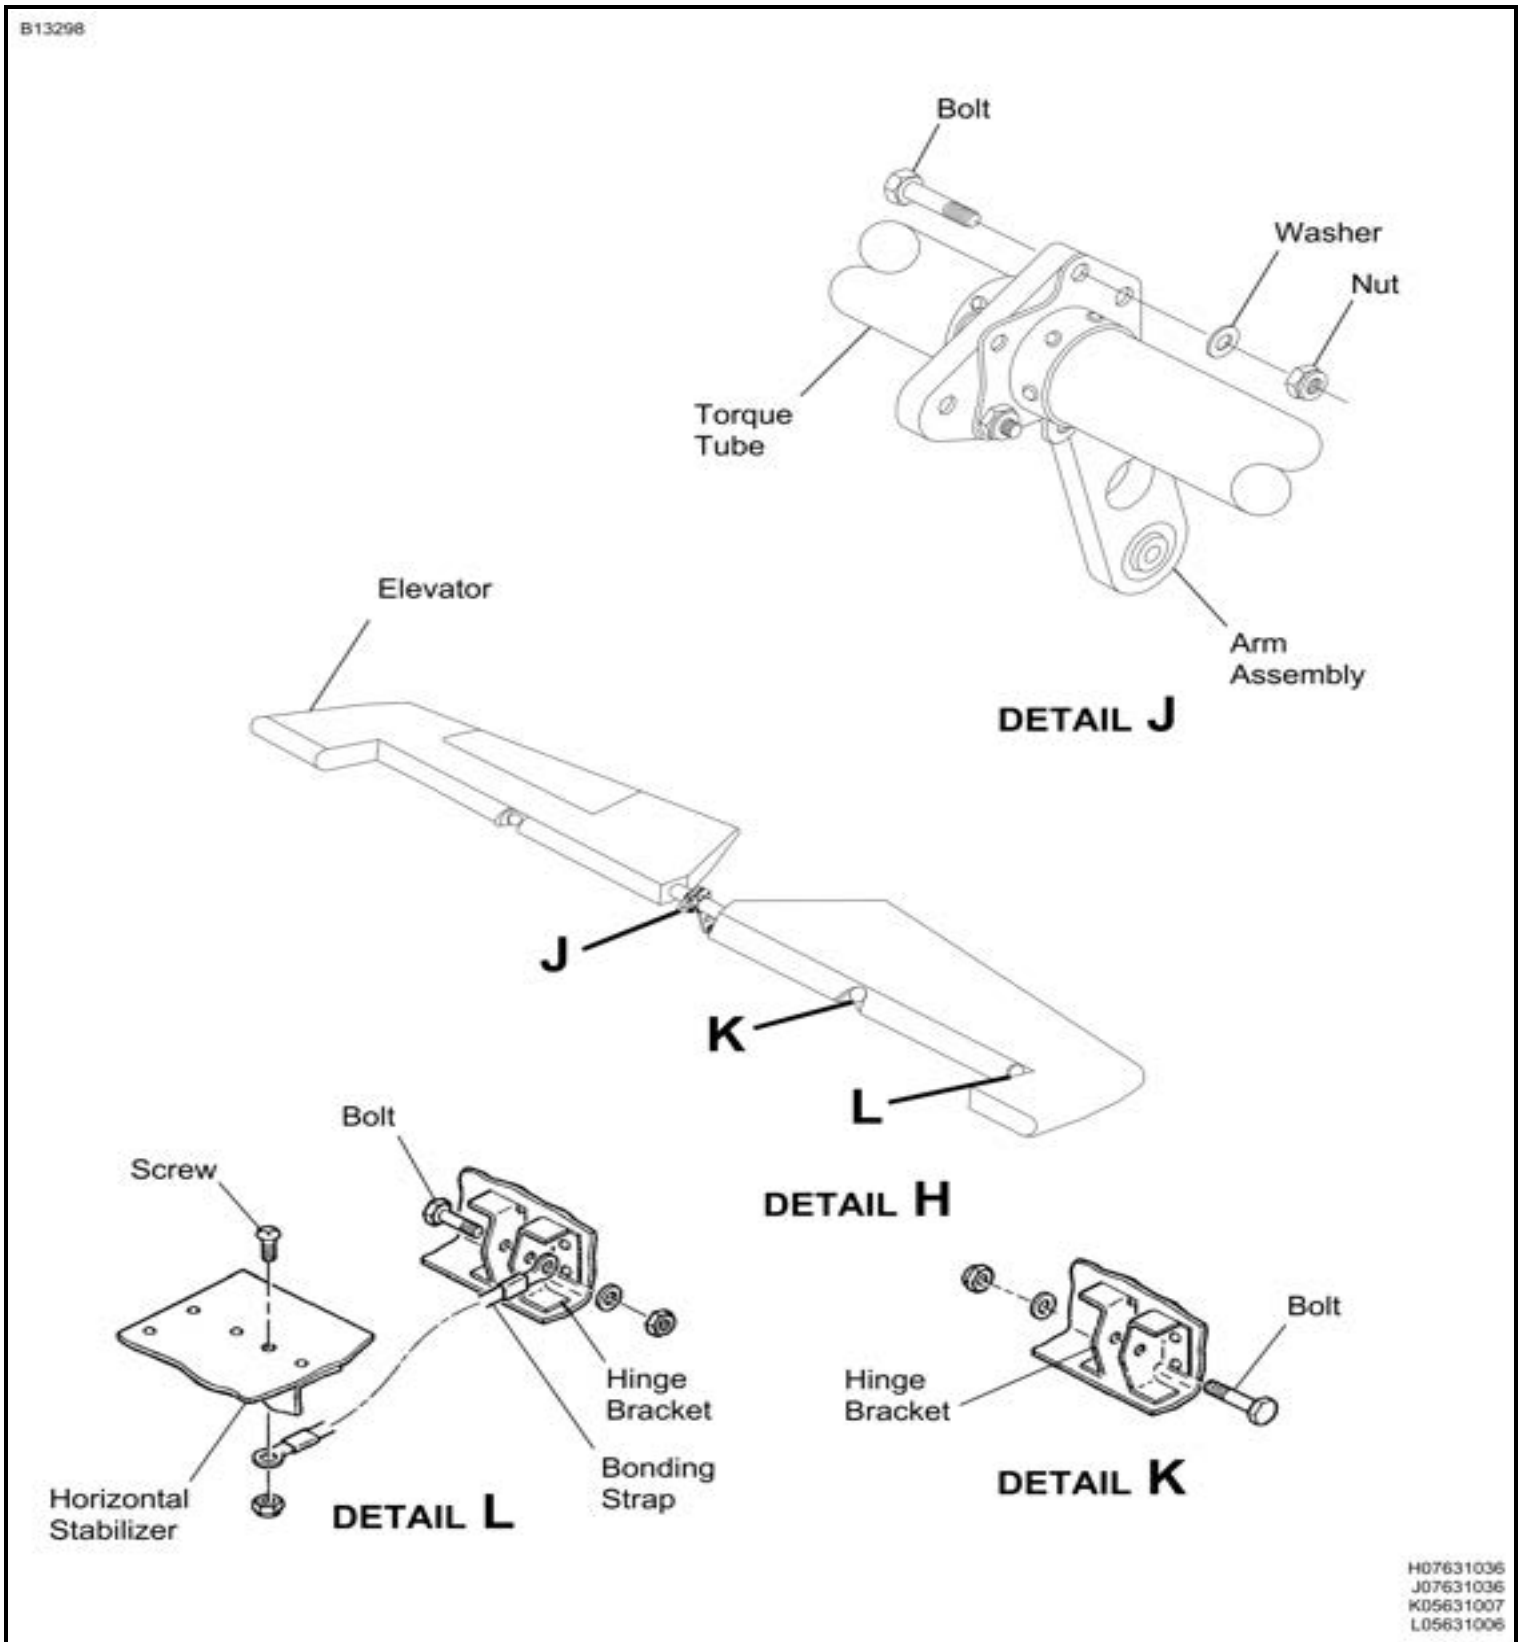
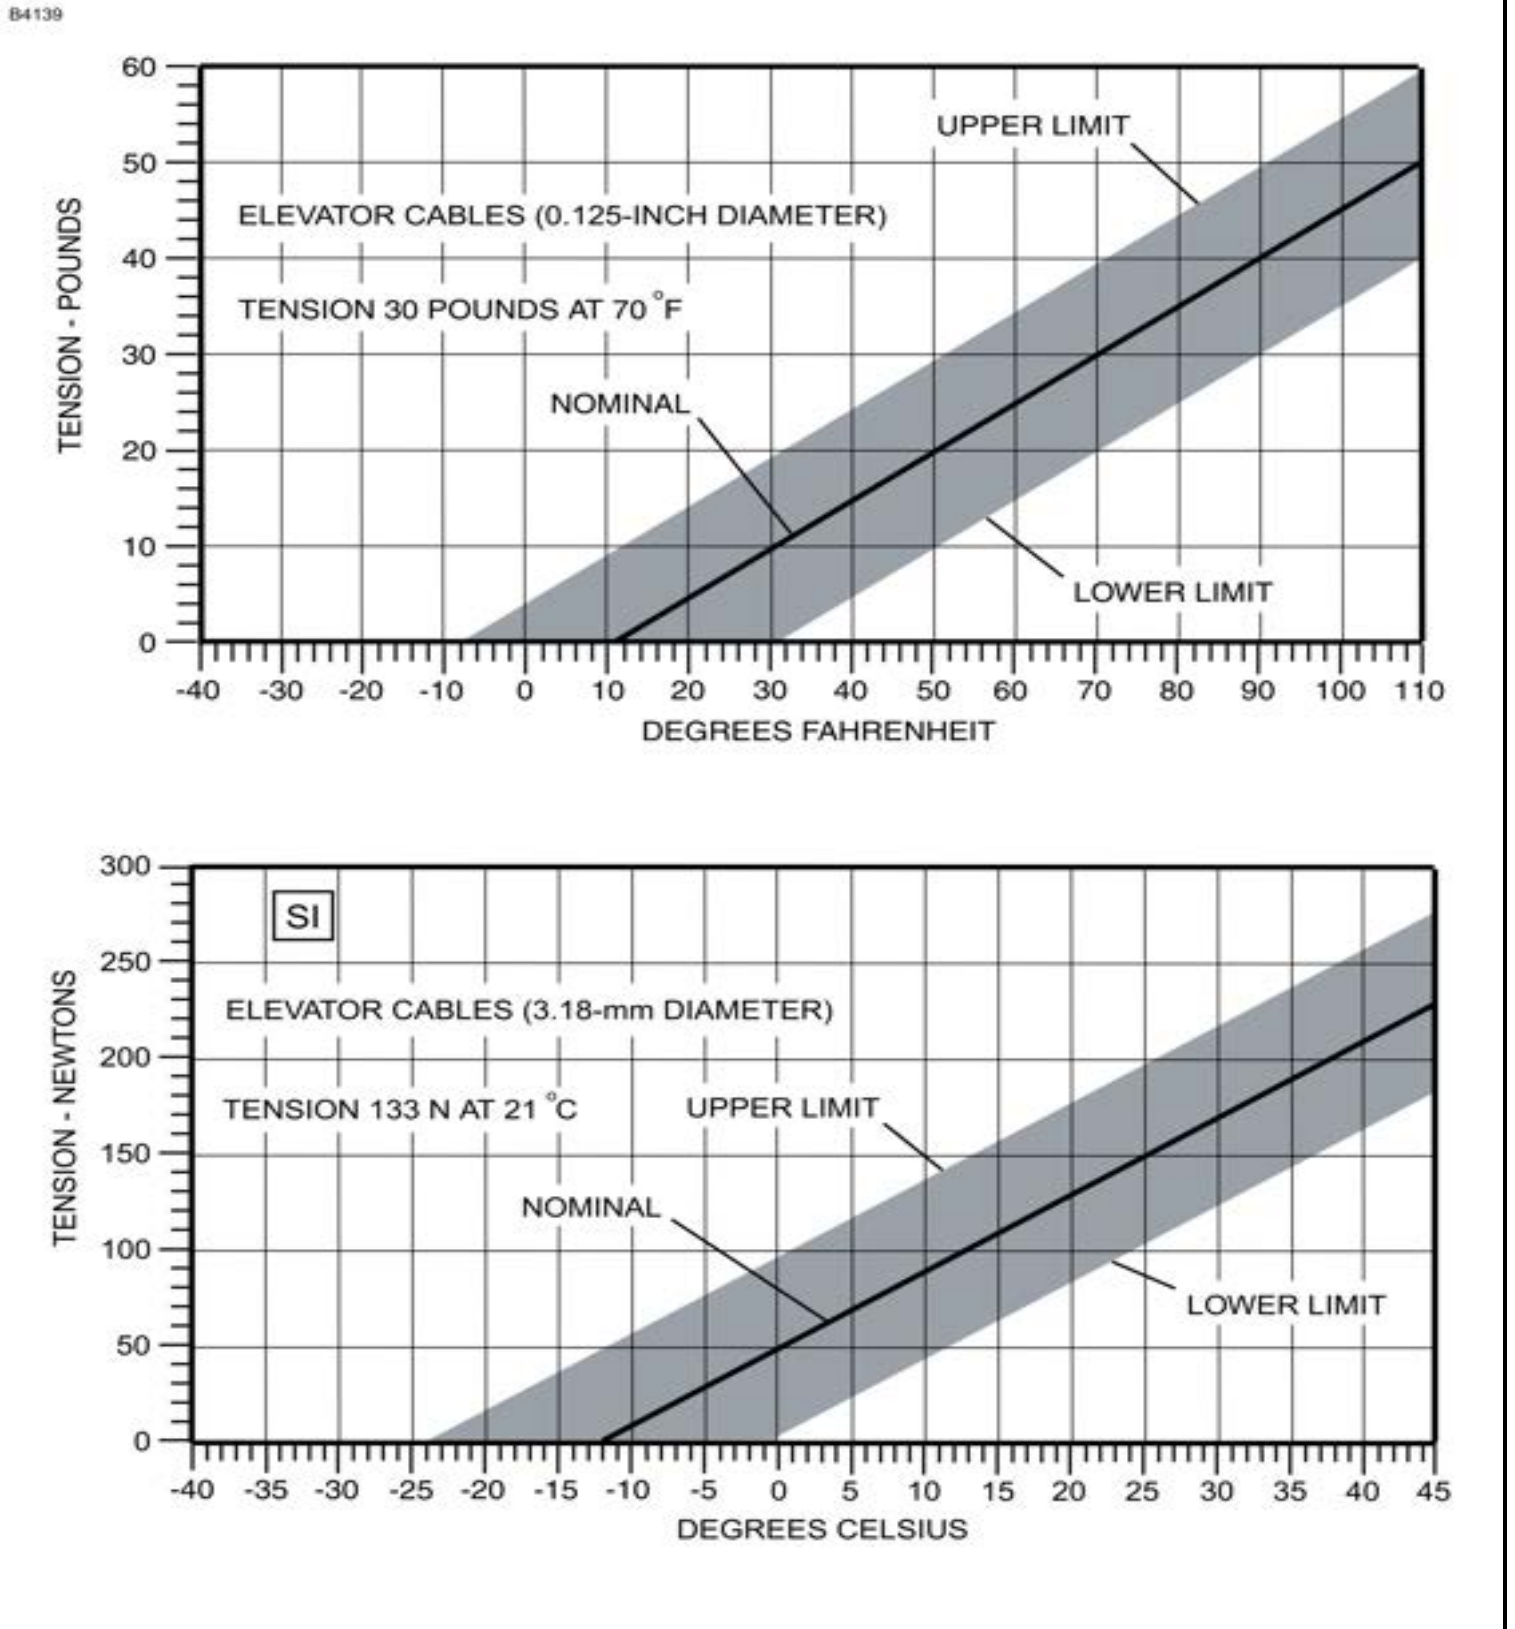

Figure 202 : Sheet 1 : Elevator Control System Rigging
Figure 204 : Sheet 1 : Elevator Cable Tension (with the GFC-700 Autopilot)
A. Rig Elevator (Refer to Figure 202, Figure 203, and Figure 204).
- (1) Remove the stinger (310DB), fairings (340AL and 340AR), and access plate (310BB). Refer to Chapter 6, Access/Inspection Plates - Description and Operation.
- (2) Lock the elevator control column in the neutral position with the neutral rigging tool (Refer to Figure 202).
- (3) Streamline the elevators to the neutral position with the horizontal stabilizer. Ignore counterweight areas of the elevators when you streamline the elevators.